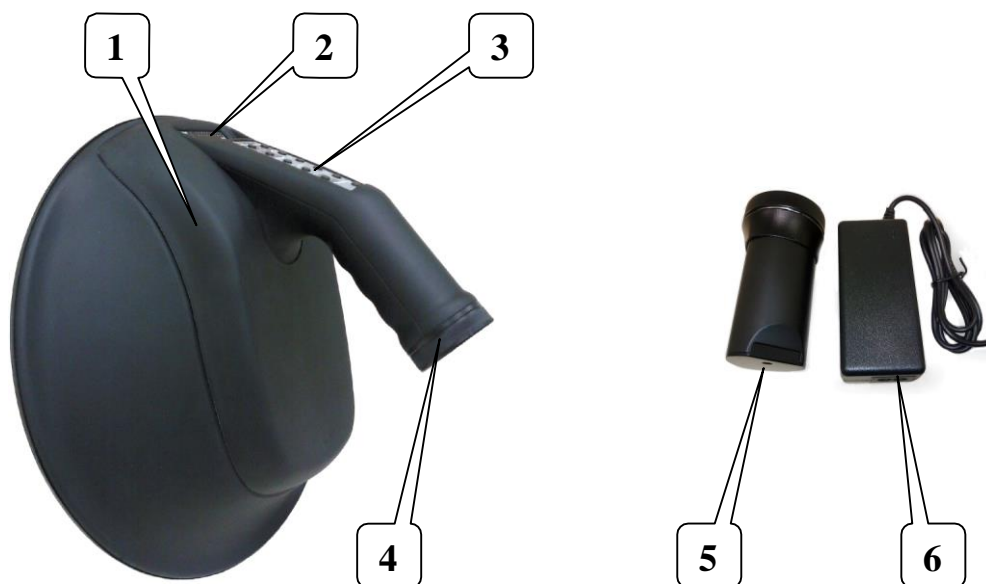

Fig. 1
Appearance of NLJD is given in Fig 1, where:
4.5. Battery charging of the duplex antenna unit is to be made with the charger included to the delivery set only. Using other chargers is not allowed. For charging it is necessary to unscrew a cover at the edge of NLJD's arm, remove a battery and place it into the container for charging (Fig.1). Connect the container to the charger.